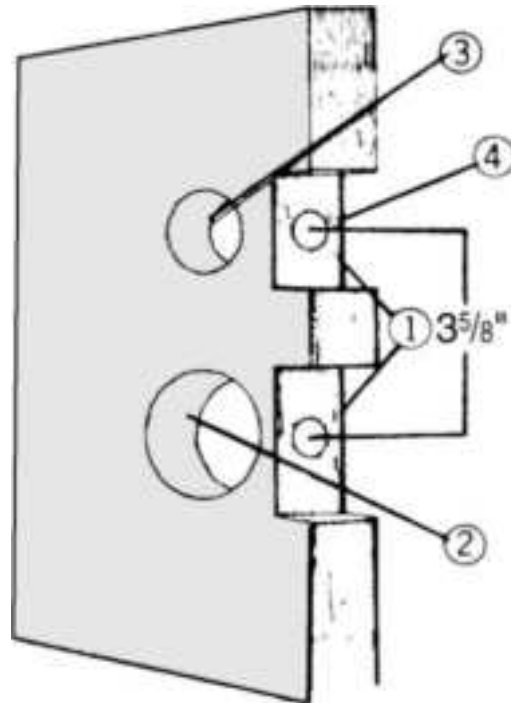

**Figure 13.138** Two mortise cuts are required in the door edge in addition to the required holes. (*M.A.G. Engineering and Mfg., Inc.*)
2. See Fig. 13.138 . Mortise out the front edge of the door (1)  $2\frac{5}{8}$  inches high  $\frac{1}{2}$ -inch deep in the center of the lock hole (2).
- 3.. Using the template furnished with the deadbolt lockset, mark and drill holes (3) and (4)  $3\frac{5}{8}$  inches from the center of the bottom hole.